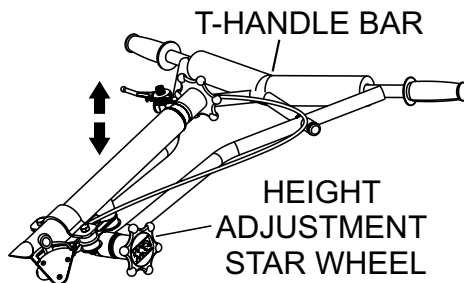

Figure 5. T-Handle Bar Adjustment
2. To adjust the height of the T-bar, loosen the star wheel (Figure 5) and position T-handle bar in the desired position.